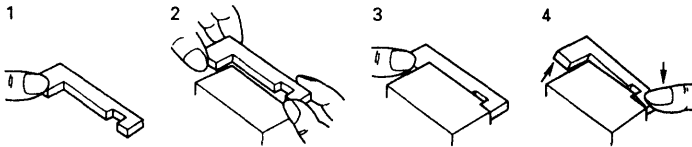

Fig. 2-5. Installing the ink ribbon cassette
- ③ Install the ink ribbon cassette as shown in Fig.2-5.